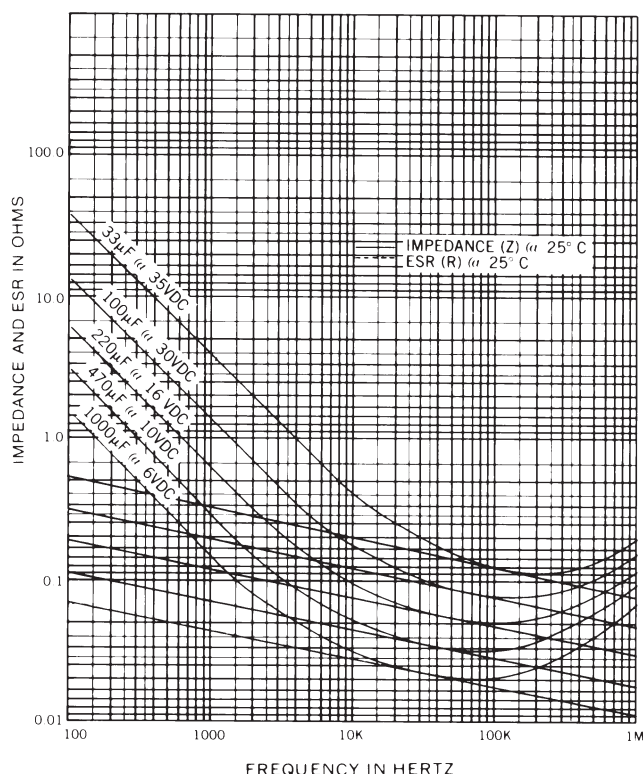

Fig. 6 Typical Behavior of Impedance and ESR as a function of frequency @ 25°C
**Equivalent Series Resistance** — The equivalent series resistance (ESR) of a solid tantalum capacitor is frequency dependent. The curves of Figure 6 are typical of the capacitor values noted, with measurements being made by contacting lead wires 1/4 inch from the ends of the capacitor cases. Since ESR decreases with frequency, AC performance at higher frequencies is considerably better than would be predicted from the 120 Hz ratings.
**Capacitor Impedance** — The relationship between impedance and frequency at various voltage ratings is illustrated with typical curves in Figure 6. Impedance declines with decreasing capacitive reactance, but ESR becomes dominant before the self-resonant point is reached, producing the typical damped curves. Finally, impedance increases as inductance of the lead wire and other capacitor elements dominates. Obviously, high frequency impedance is directly influenced by the length of lead wire and general mounting configuration. The typical curves of Figure 6 include 1/4 inch of lead wire at each end of the capacitor.